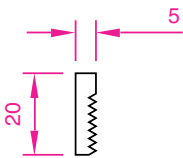

Fig. 17.10 **Second example UCS**
14. In the UCS ***FRONT*** plane, construct one of the bolts as shown in Fig. 17.10, forming a solid of revolution from a pline. Then add a head to the bolt and with **Union** add it to the screw.